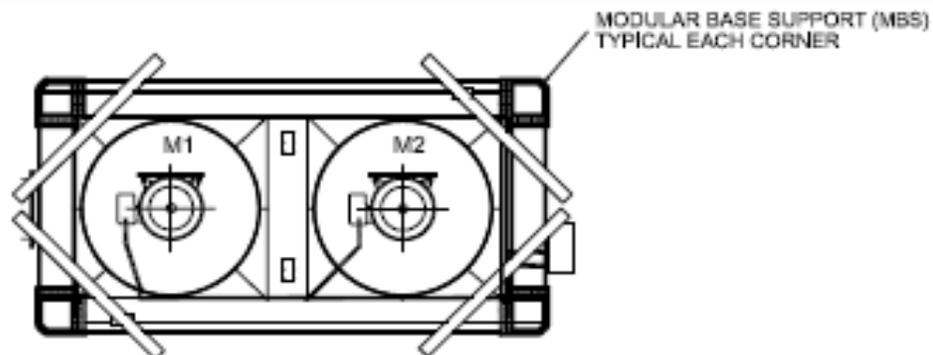

Figure 33 – Cribbing Detail
**Should the tower need to be translocated or temporarily placed on the ground prior to its final positioning, the tower shall always be placed on a sound and level surface. Care shall be taken at all times not to distort or rack the tower module's envelope. Cribbing should be installed at each corner using a minimum of 6" x 6" beams placed on a 45° angle to prevent damage to the Modular Based Supports (MBS) as shown in Figure 33 below.**